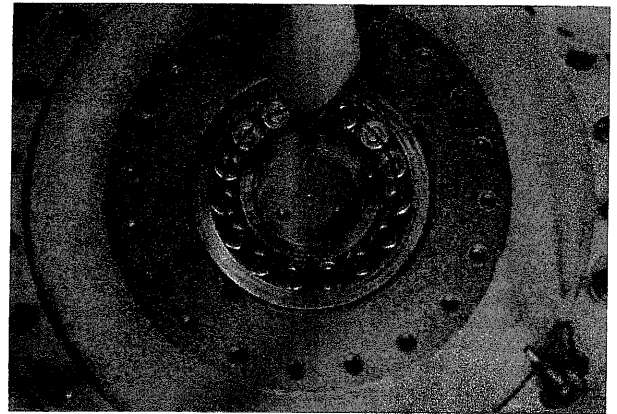

Fig. 95
- (3) Mount axle shaft in roll. (Fig. 95)